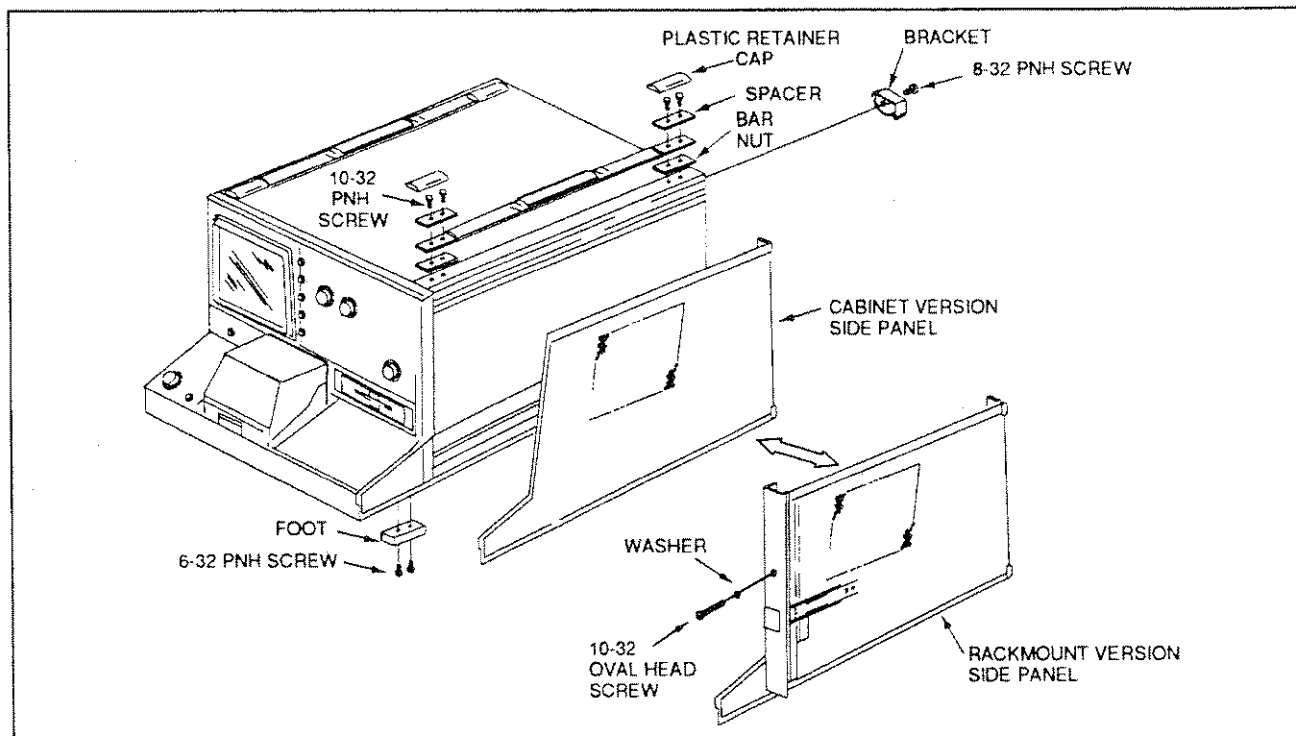

Figure 1-6. Cabinet-to-Rackmount Conversion.
**Rackmount to Cabinet Conversion.** To convert the 370A rackmount version to a cabinet model, use the following procedure (see Figure 1-6):
**Cabinet to Rackmount Conversion.** To convert the 370A cabinet model to a rackmount version, use the following procedure (see Figure 1-6):